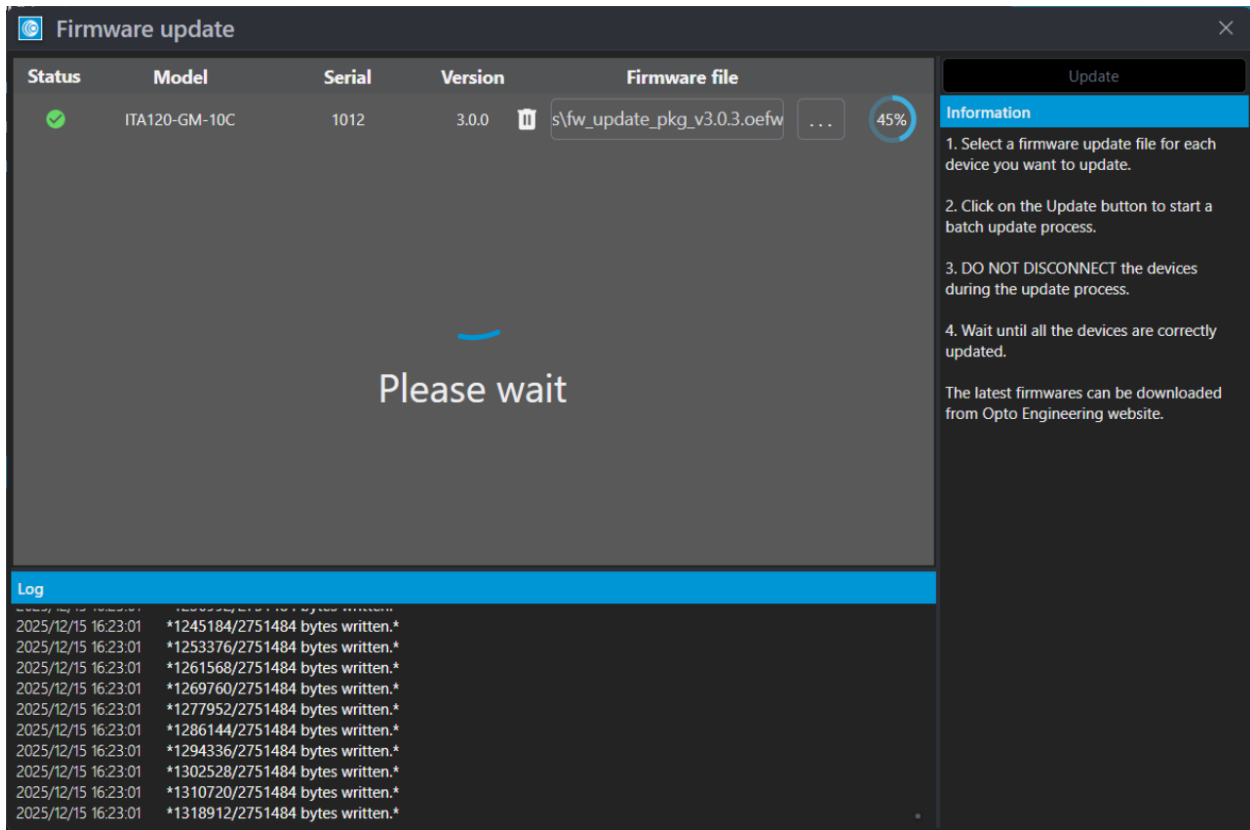

Figure 24: FW update in progress.
3. **Do not disconnect or power down** the devices during the update process (Fig.24). The LED blink signals that the camera is writing to the flash memory.